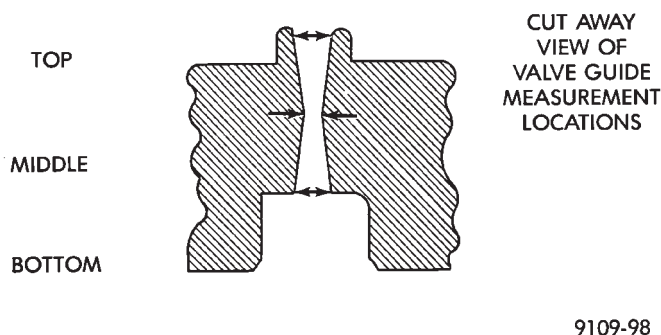

Fig. 89 Checking Wear on Valve Guide—Typical
- (1) Remove carbon and varnish deposits from inside of valve guides with a reliable guide cleaner.
- (2) Using a small hole gauge and a micrometer, measure valve guides in 3 places top, middle and bottom (Fig. 89). Refer to (Fig. 90) for specifications. Replace guides if they are not within specification.